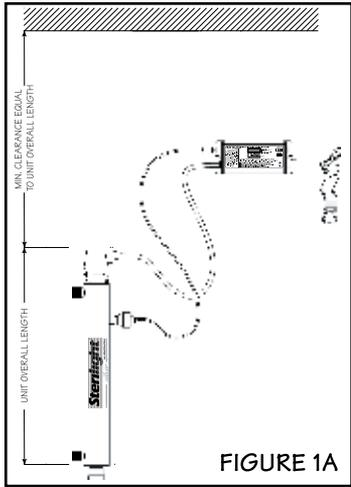

FIGURE 1A
2. Select a suitable location for the disinfection system and its related components. As it is recommended to install a ground fault protected circuit (GFCI), make sure that this is taken into consideration prior to any installation. The system can either be installed vertically (inlet port at the bottom) (Figure 1A), or horizontally (Figure 1B), however the vertical installation is the most preferred method. When selecting a mounting location, you must also leave enough space to allow for the removal of the UV lamp and/or quartz sleeve (typically leave a space equal to the size of the reactor chamber itself). (Note: Installation drawings show Silver "PLUS" system with UV sensor for representation purpose only)